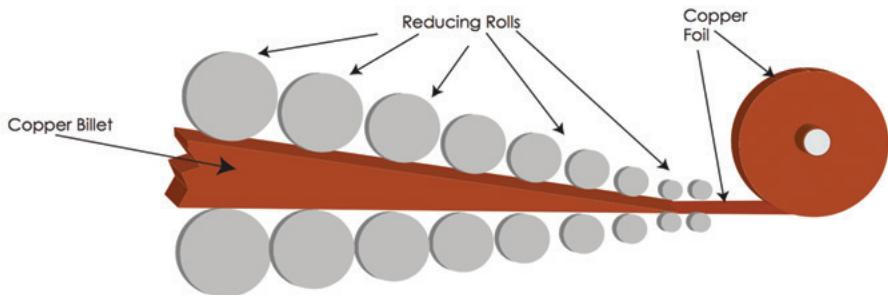

Figure 2.7: The RA copper process.
Rolled annealed (RA) copper foils are created by successively passing an ingot of solid copper through a rolling mill, and then applying high temperature to anneal the copper (Figure 2.7).